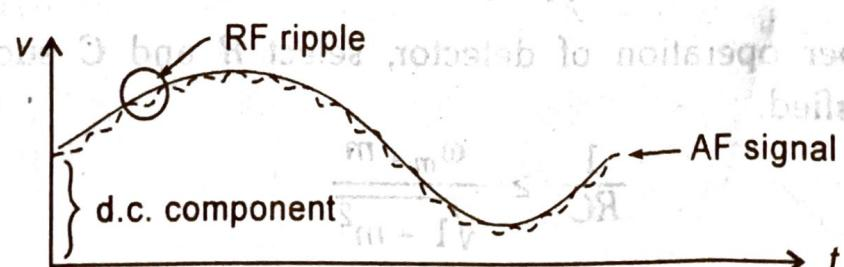

Fig. 6.2
- This process continues and we get modulating voltage across R as shown in figure 6.2.
- The figure 6.2 shows that output of diode detector follows the envelope of AM wave, therefore it is called *Envelope Detector*.